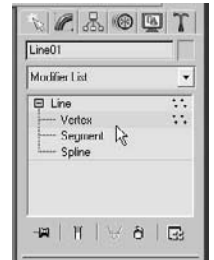

Figure 5.102
3. Move to the Modify panel and enter Vertex mode for the line, as shown in Figure 5.102. Select the middle vertex, go to the Line Parameters/Geometry/Fillet, and enter **0.1**. This will add a smooth corner to the bend.